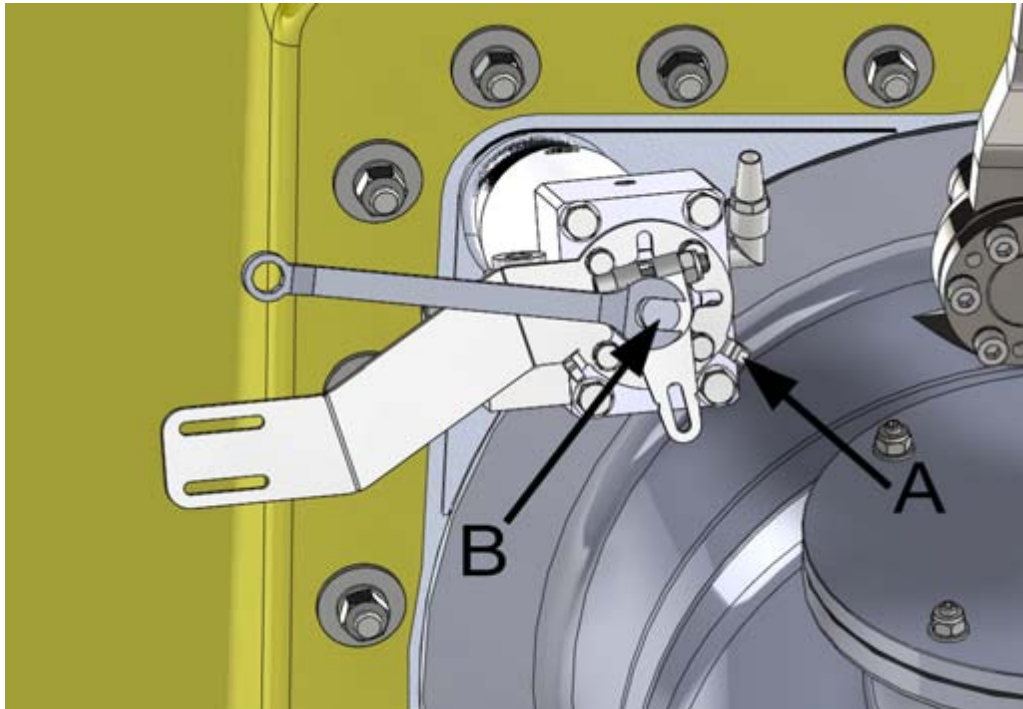

Figure 39. Operating shaft and limiter
3. Place the lever against the limiter on the shaft (figure 39, point A).
5. Using a wrench, turn the operating shaft (figure 39, point B) 13 mm (0.4") clockwise so that the reversing deflector is down, blocking the jet flow.